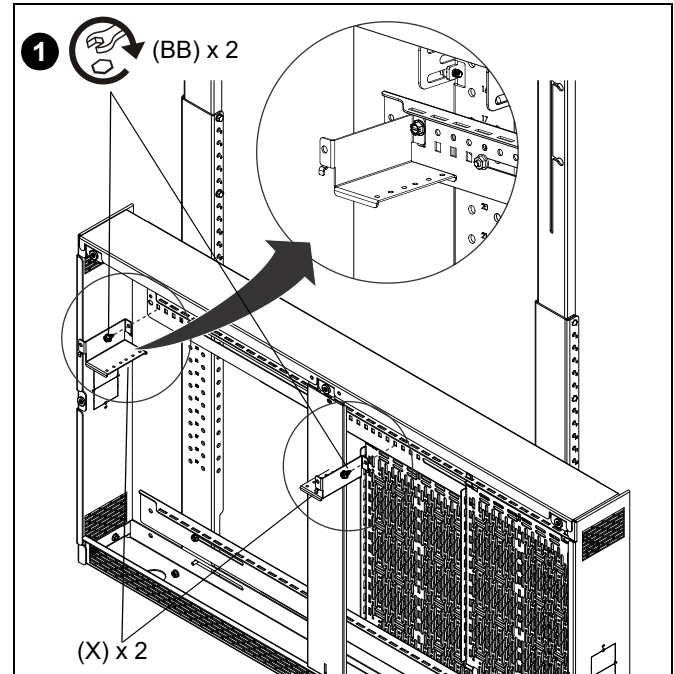

Figure 19
1. Install two rack brackets (X) in the desired locations along the upper storage rail (C) using one #14 x 1/2" hex head self-tapping screw (BB) per bracket. (See Figure 19)